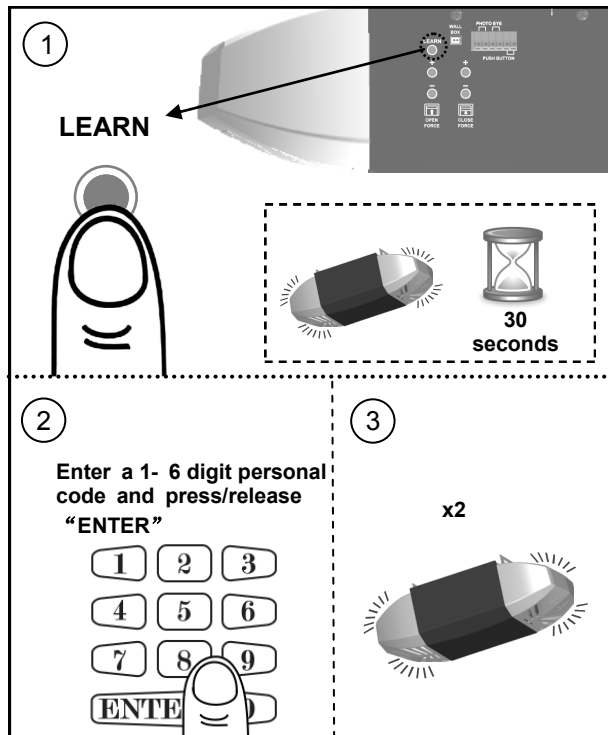

Fig.1
1. Press the "LEARN" button on the rear control panel, "OK" LED will glow and beep. The unit is ready to accept a keypad code in the next 30 seconds as shown in Fig.1.